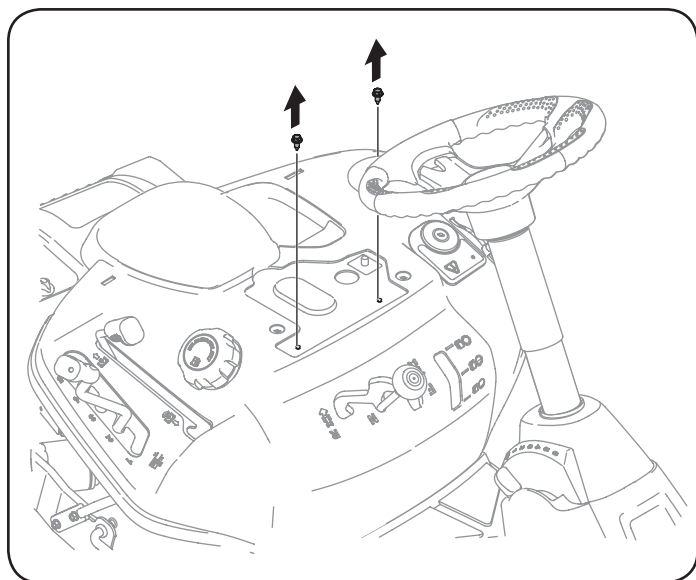

Figure 5
2. Remove the two self-tapping screws factory installed on the tractor. See Figure 5.